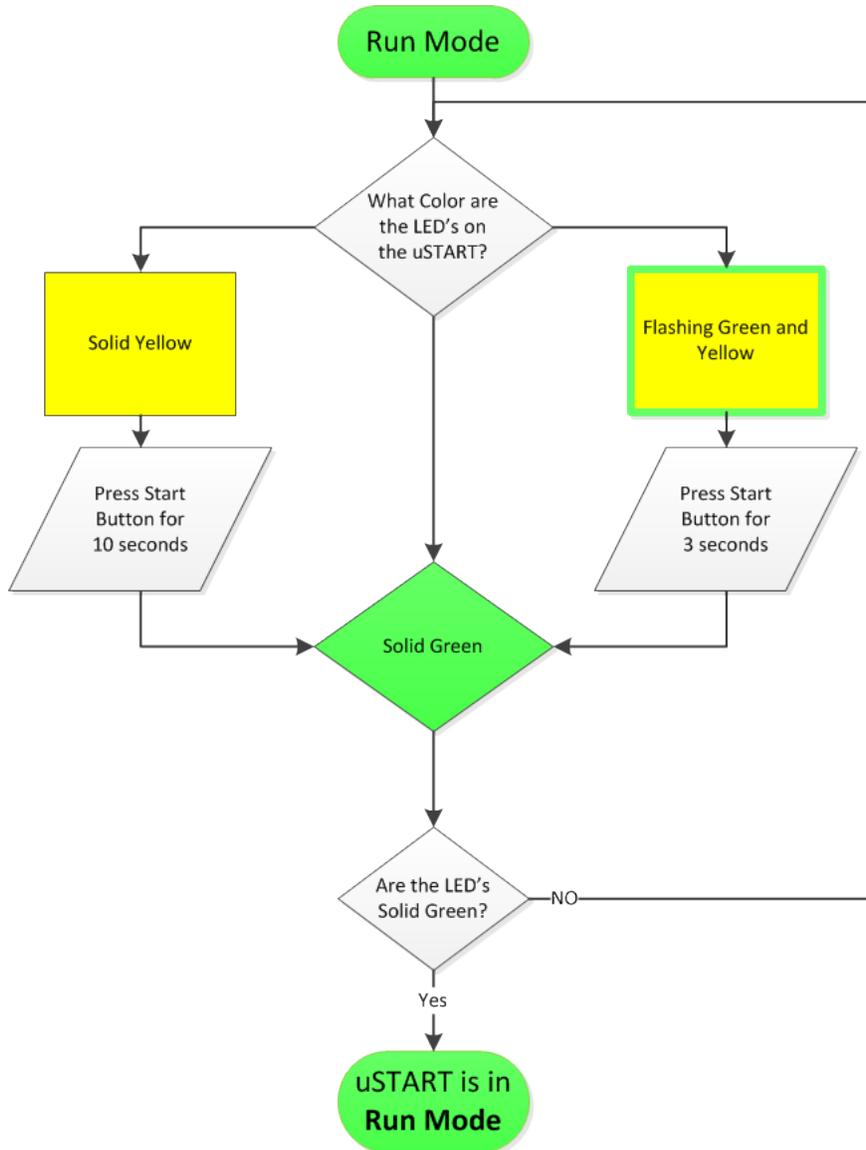
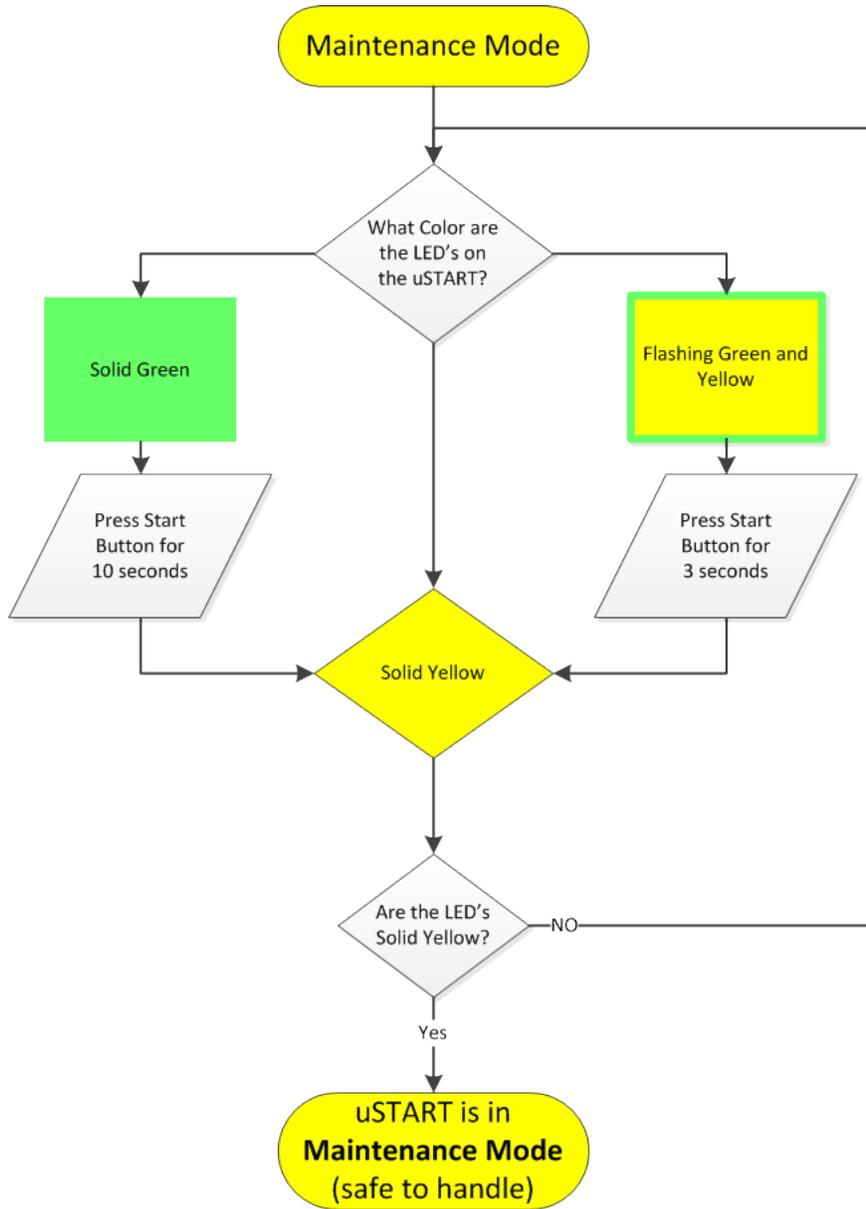
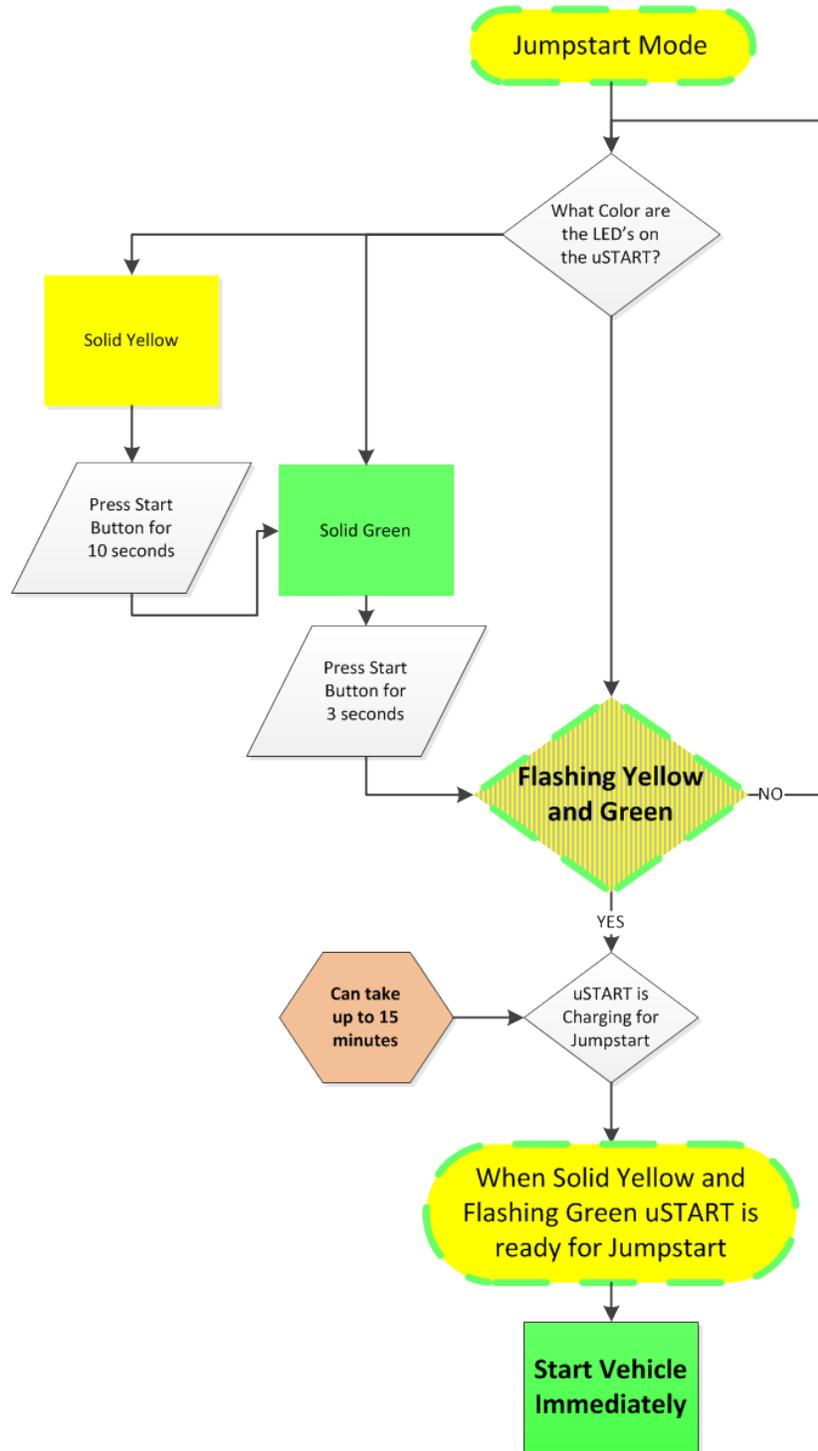

Figure 5: Run Mode Flow Chart
Figure 6: Maintenance Mode Flow Chart
Figure 7: Jump Start Mode Flow Chart
The **Start Button** performs different functions depending on uSTART® operation mode. The button may be pressed and held for periods of one (1), three (3), or ten (10) seconds to access different functions. Refer to Flow Charts (Figure 5, Figure 6, and Figure 7) for **Start Button** actions.